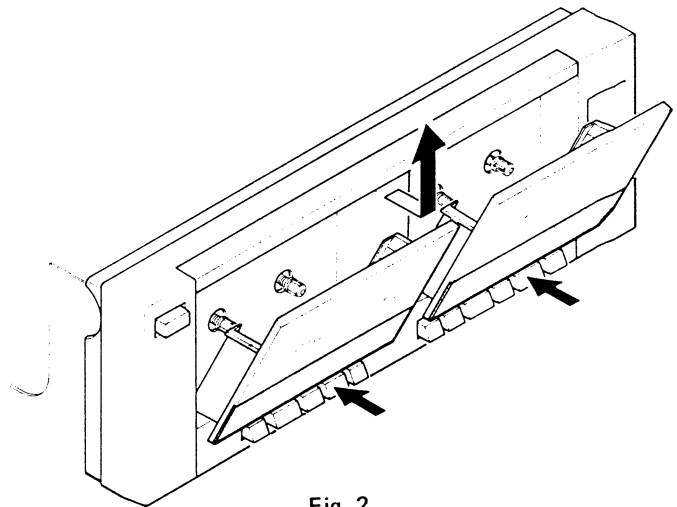

Fig. 2
- 2) Open the cassette lid and raise the front panel in the direction of the arrow. (See figure 2)